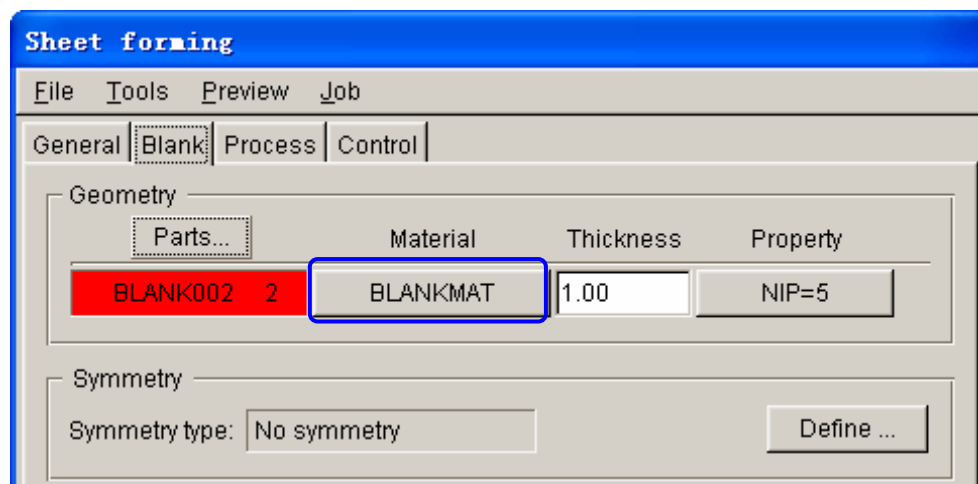

Figure 6.8 Blank definition interface
4. Now, the basic parameters about the blank have been defined, and the tab of the **Blank** has changed from red into blank. See Figure 6.8.
Once blank has been defined, the program automatically selects a kind of default material and relative property as shown Figure 6.8. You can also press **BLANKMAT** button to redefine material.